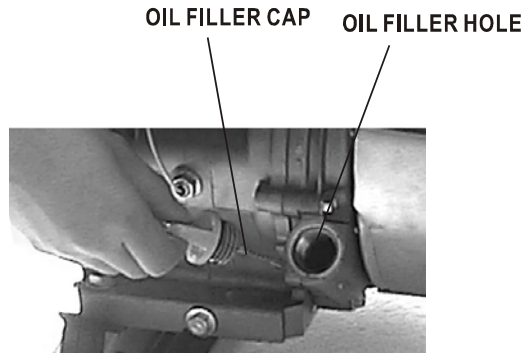

Figure 14- Checking the oil
2. Remove the oil filler/dipstick cap from the engine as shown in figure 14 above.